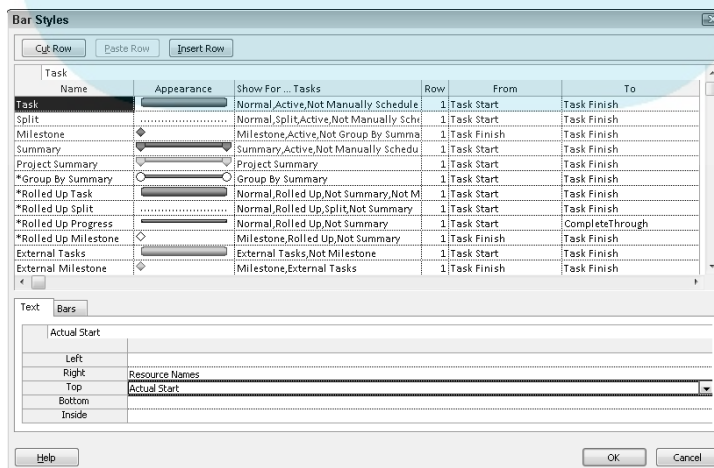

Figure 11-3:
5. Click the Text tab (as shown in Figure 11-3), and then do the following: